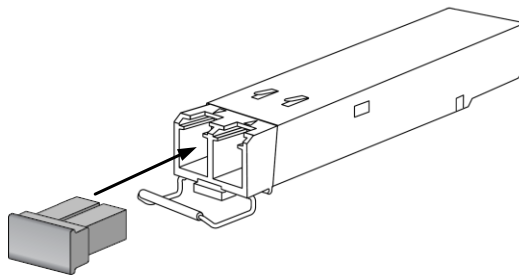

Figure 9: SFP+ Module with bale clasp open
5. Insert the clean dust covers into the module, as shown in Figure 9.